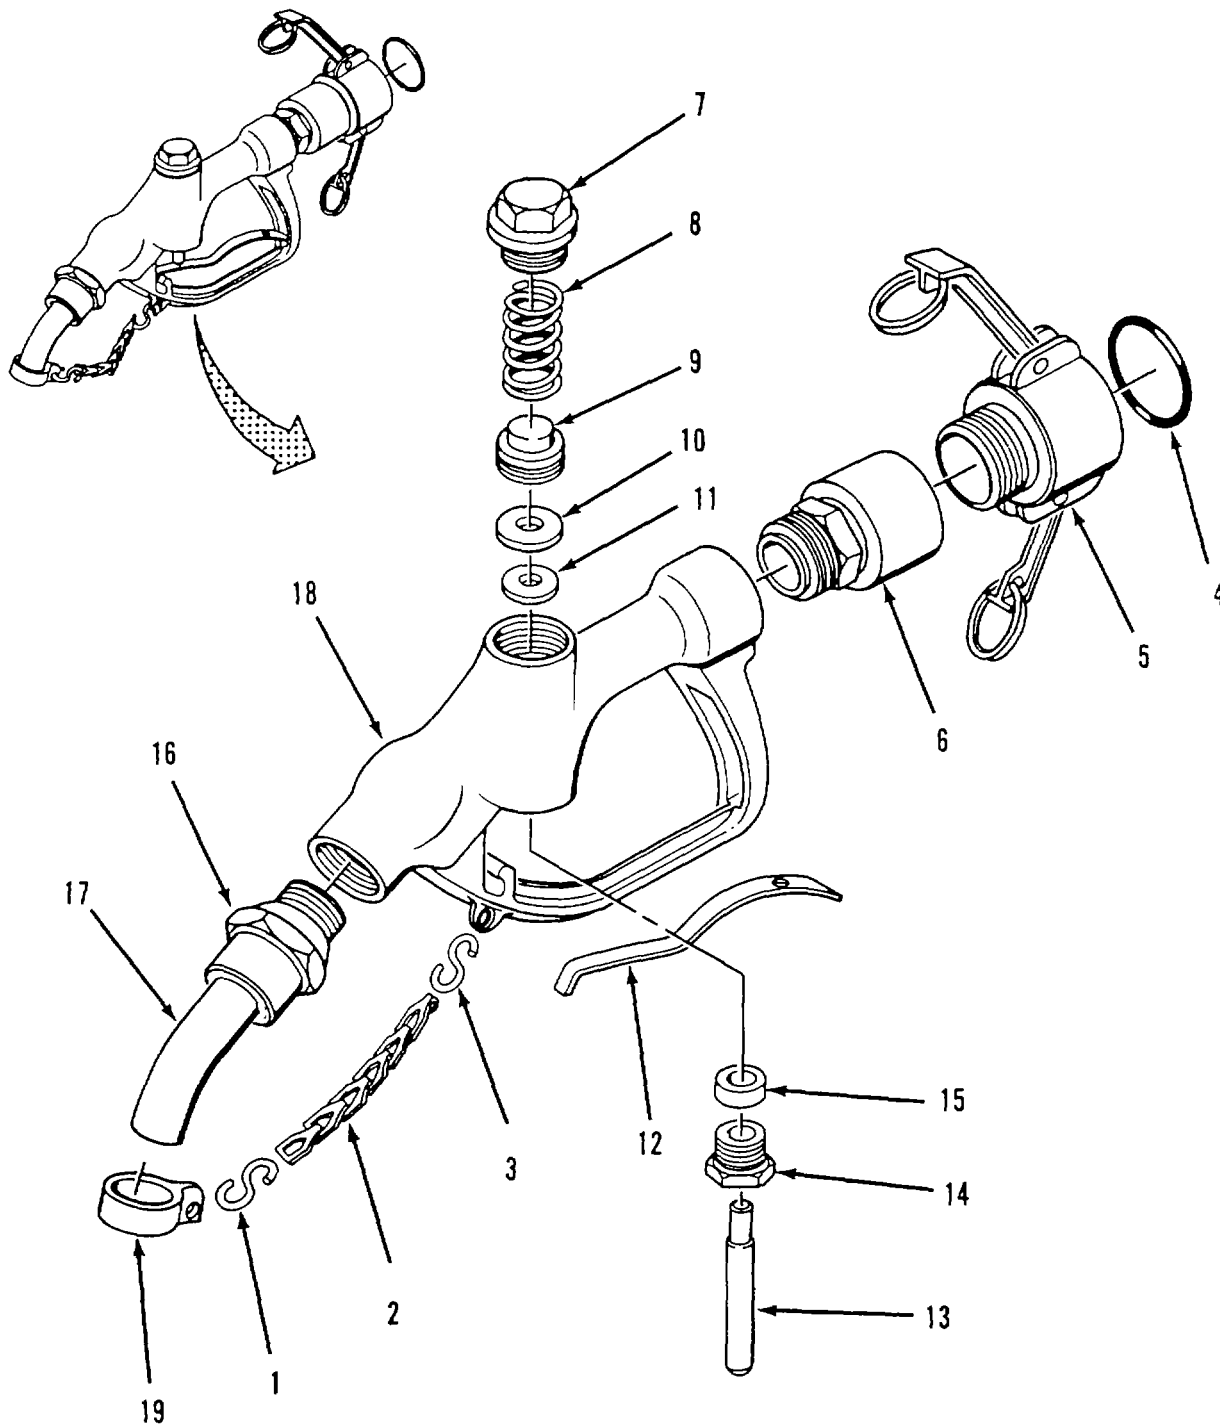

Figure 4-9. Distribution Nozzle (1-Inch) Assembly.
- (1) Inspect body (18) and tube (17) for cracks and stripped or damaged threads.
- (2) Inspect handle (12) for bends and cracks.
- (3) Inspect stem (13) for scoring Check that stem is straight.
d. Repair. Replace damaged parts Do not reuse gasket (4), packing (15) or disc (10).e. Assembly. Refer to figure 4-9.
- (1) Position end of tube(17)on body (18)and secure with jam nut (16).
- (2) Install packing (15) and packing nut (14) in body (18). Do not tighten packing nut.
- (3) Push stem (13) into packing nut (14) from top of body (18) Make sure stem is positioned as shown.
- (4) Position handle (12) in body (18). Push down on stem (13) to keep handle in place.
- (5) Place disc washer (11), disc (10) and disc holder (9) on top of stem (13).
- (6) Position spring (8) on top of disc holder (9) and install cap (7) on body (18).